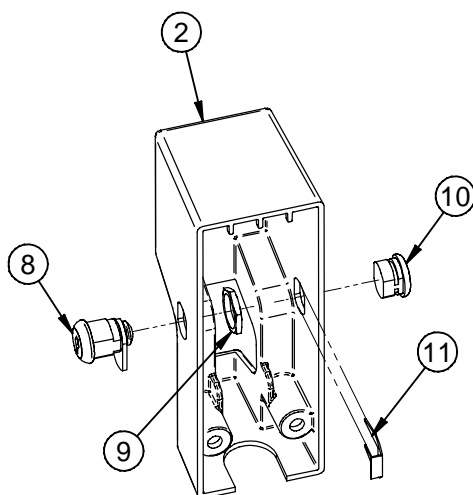

Figure 8 – Cam Lock & Plug Installation
The Gate Lock provides for the additional function of a key operated (cam type) manual override for use when the lock is operated in the **fail locked mode**. The key operated cam lock can be assembled to either side of the lock cover. **Figure 8** and the following instructions describe the proper installation of the cam lock and the cam lock hole plug.
3. Slip the cam lock mounting hex nut (**Item #9**) over the cam inside the cover and thread the nut onto the cam lock body by hand (See **Figure 8**).
1. Insert the cam lock hole plug (**Item #10**) through the desired hole in the cover (See **Figure 8**).